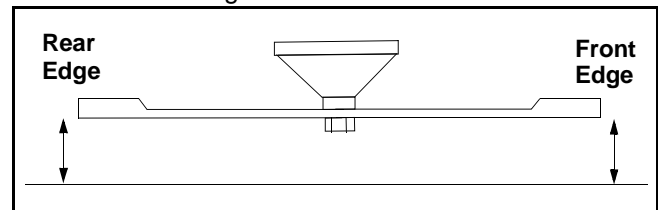

Figure 20
- Raise the lift handle to the highest setting (7).
- Position the mower blades so the ends of each blade point to the front and to the rear of the Z-Series. See Figure 20.